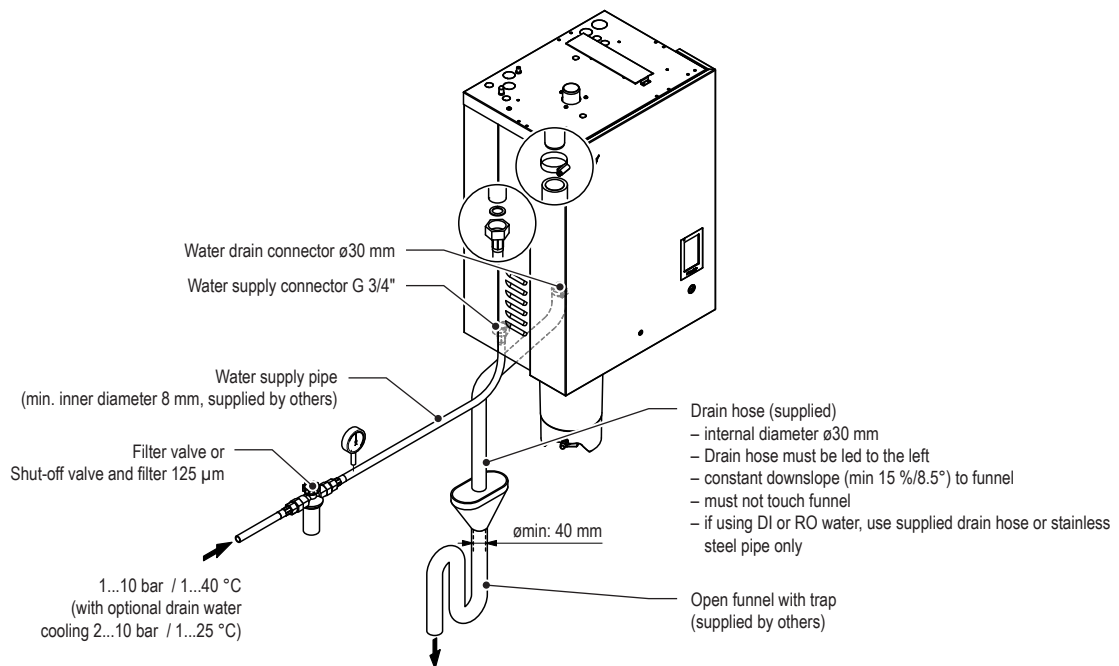

Fig. 20: Overview water installation for single units Small ("S") and Medium ("M")
- Always lead the supplied drain hose from the connector to the left down to the funnel (see Fig. 20).